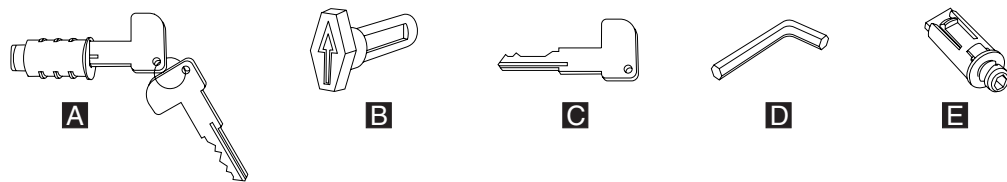

Figure 93. Lock accessories
1. The lock insert fits all the way into the lock cylinder only when the slot in the bottom of the cylinder and the lug on the end of the insert are aligned. If necessary, insert the aligner tool (see Figure 93) into the lock cylinder and rotate it until you feel it engage the slot at the bottom of the cylinder; then turn the aligner tool until the arrow points up.
1. Insert the blank lock-insert handle into the blank keylock cylinder (see Figure 93 on page 116).